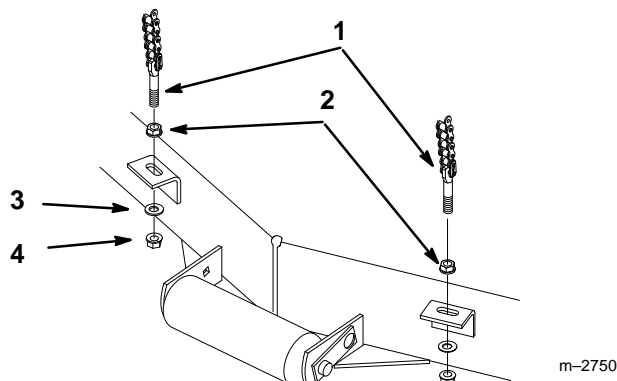

Figure 4
6. Attach front lift chain bolts to mower with (2) 3/8" flange nuts, (2) 3/8" washers and (2) 3/8" locknuts (Fig. 4).